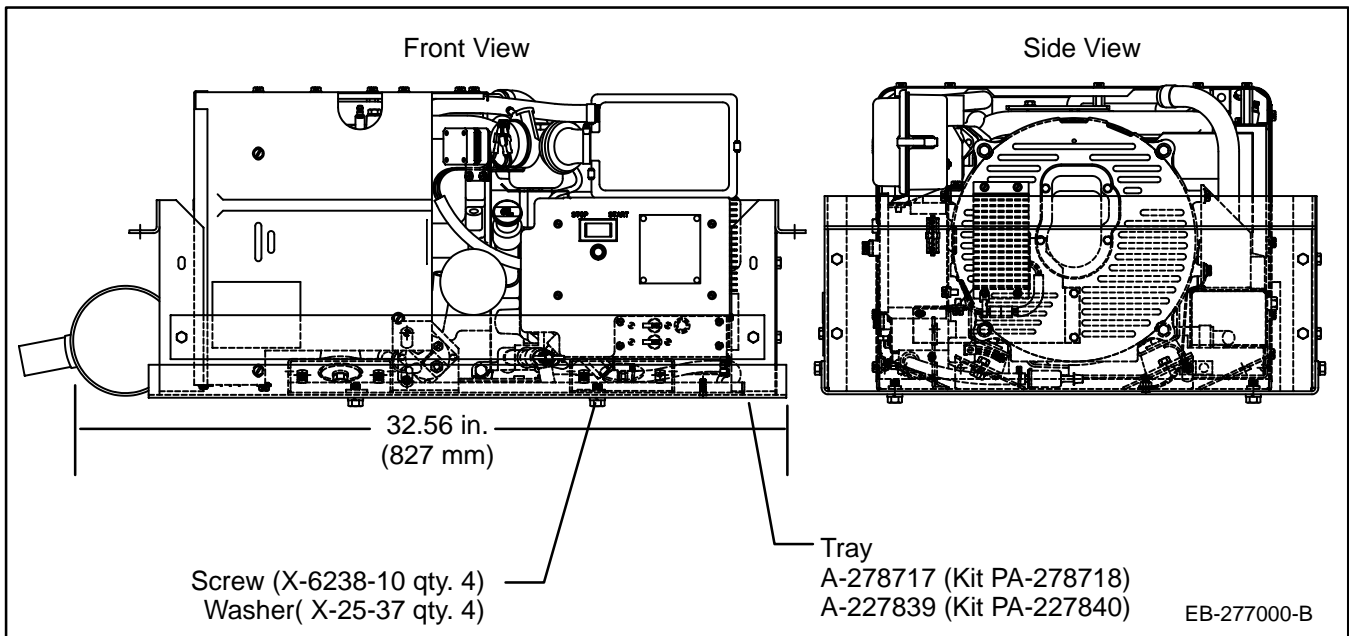

Figure 1. Kit Installation
4. Align the mounting holes in the new tray (A-278717 or A-227839) with those holes in the tray already attached to the generator set. Secure the new tray directly to the existing tray with screws (X-6238-10) and washers (X-25-37). See Figure 1.